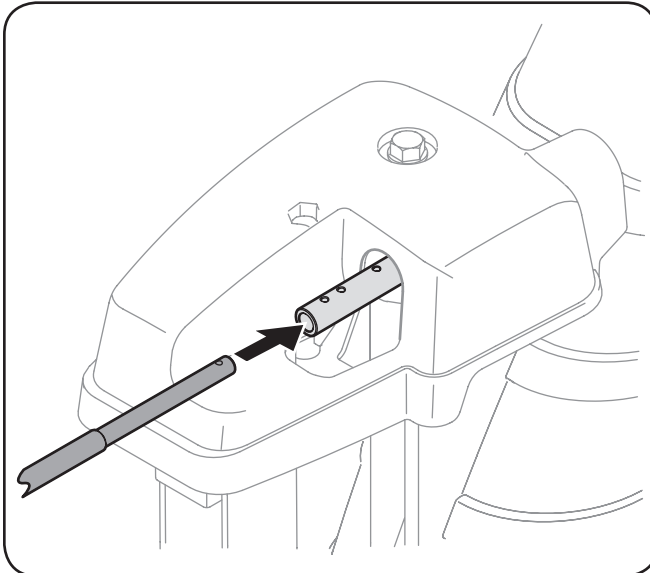

Figure 3-5
2. Insert the round end of the chute control rod into the chute control assembly. Push rod as far into chute control assembly as possible, keeping the holes in the rod pointing upward. See Figure 3-5.